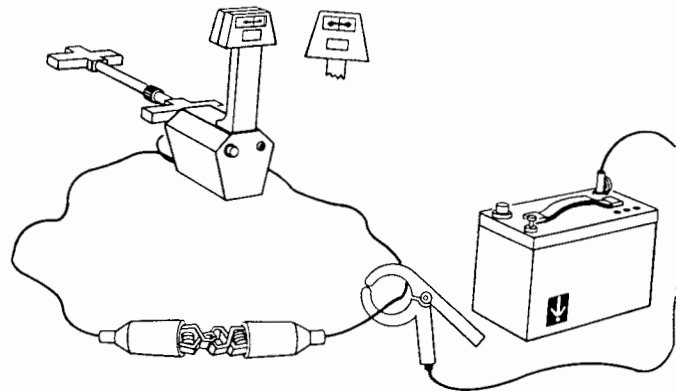

Figure 3-5: Configuration for Testing the Metroclamp
1. Keeping the conductive attachment in loop configuration shown in Figure 3-5, unplug the attachment from the Transmitter and plug it into the Metroclamp jack on the back of the 810 Receiver. Position the Receiver on the floor or ground so that you can read the field strength readout.